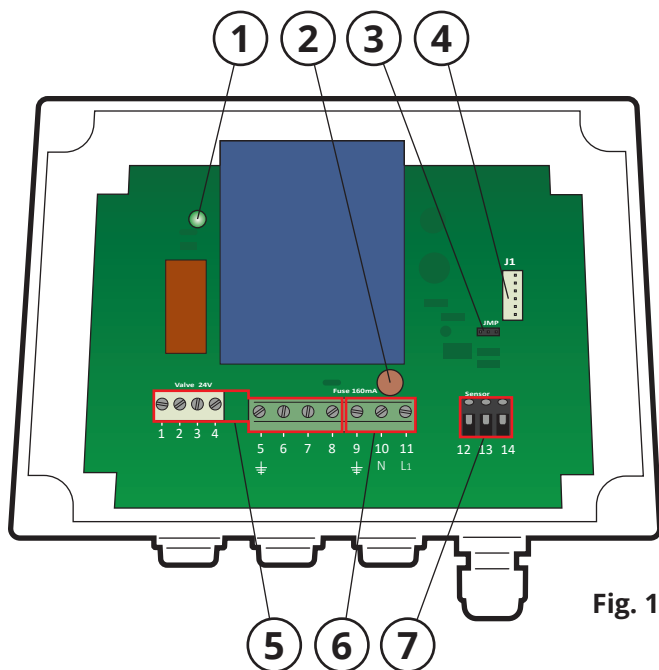

Fig. 1
S 200/24 is supplied with 115 VAC and converts the voltage to 24 VAC, which drives dampers and/ or contactors. The relay is activated by closing the circuit for the sensor terminal (7) or by a signal from an inductive sensor, for example pliers STG 200, see Fig. 1. When the relay is activated this is indicated by a diode (1).
The supply voltage is connected to terminals 9-11 (6), see Fig. 1. The supply cable for damper and/ or contactor is connected to terminals 1-8 (5). Start signal is connected to terminals 12 and 13 (7) for switches or 12, 13 and 14 (7) for sensors.